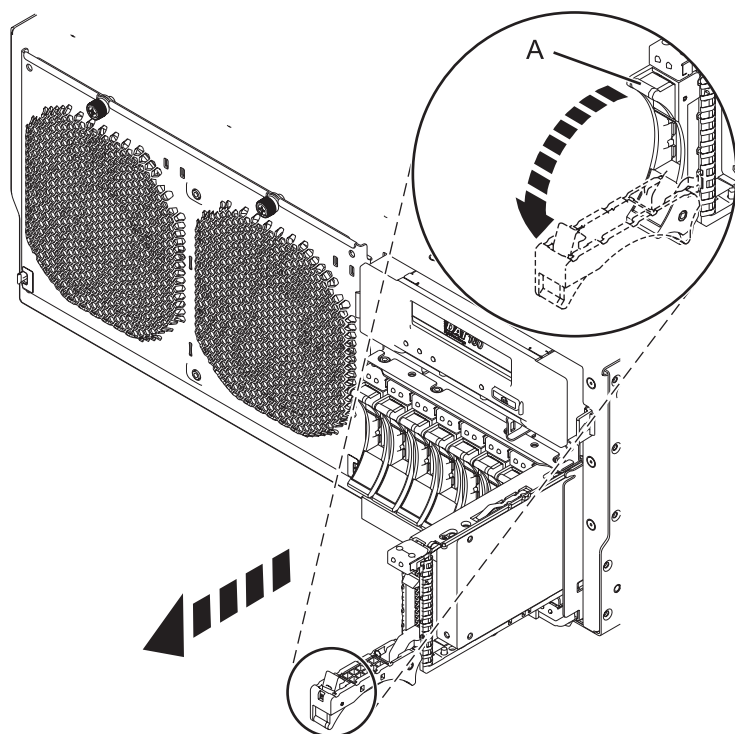

Figure 16. Removing a disk drive from the system
- Unlock the drive handle by squeezing it and pulling it out toward you, as shown in Figure 16 on page 28.